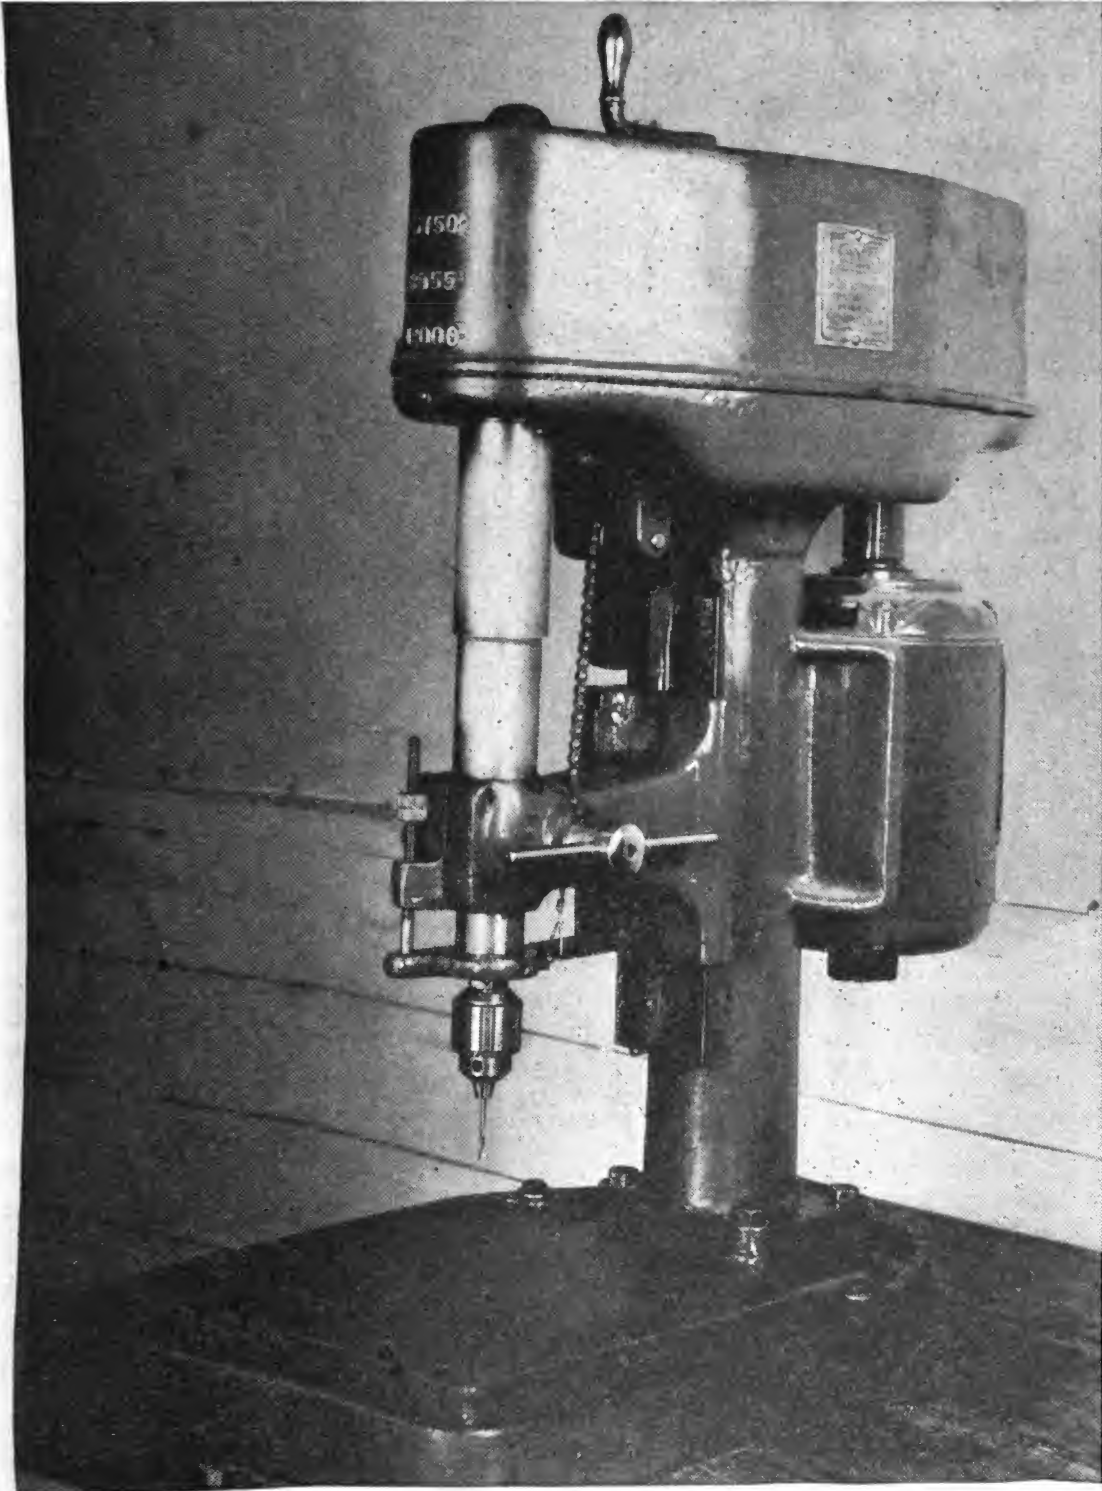

FIGURE 14.—Drill press.
j. Where holes need to be placed accurately to a lay-out and exactly at right angles to the stock, a drill press should be used. Figure 14 illustrates a small drill press which would make a valuable asset to the radio shop.